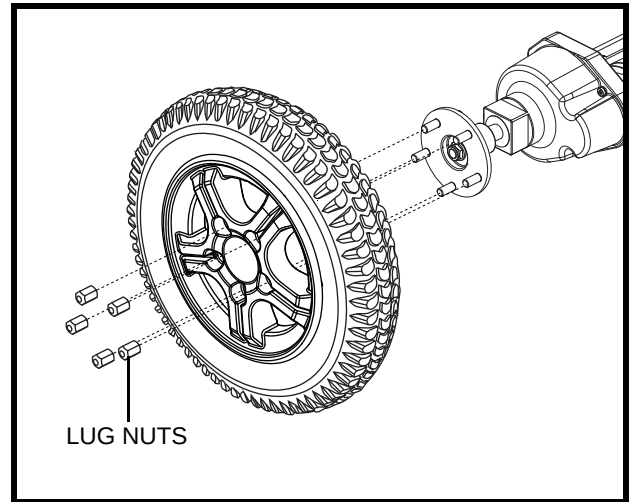

Figure 20. Drive Wheel Removal
4. Remove the lug nuts. **See figure 20.**